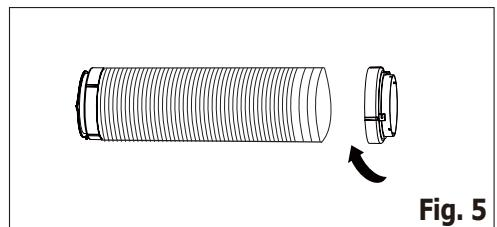

Fig. 5
2. Extend the other side of the hose and screw it to adaptor B (Fig. 5).